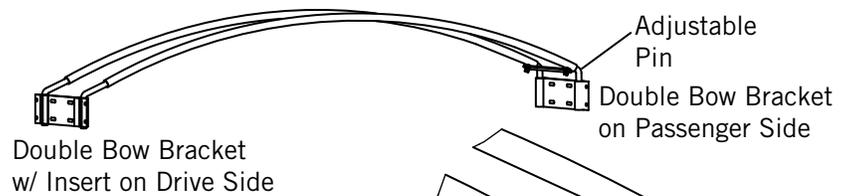

Figure 7-2
- 6a) **Figure 7-2.** Adjustable bows are tied together with the Bow Tie Bracket, flat washers, lock washers, and bolts removed in earlier step.